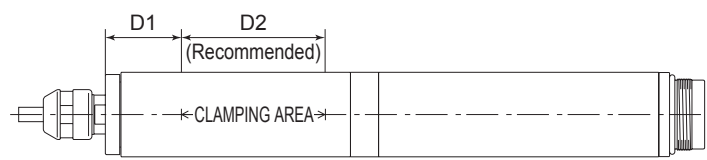

Fig. 14
- When mounting a Motor Spindle, refer to the Clamping Area etched on the Motor Spindle (Fig. 14).